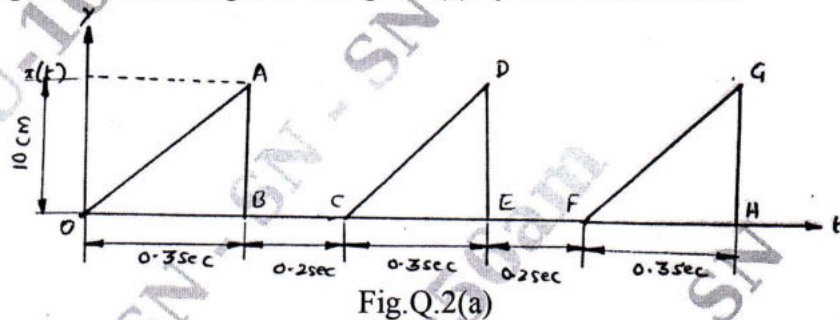

Fig.Q.2(a)
- 2 a. Represent the periodic motion given in Fig.Q.2(a) by Harmonic series. (12 Marks)